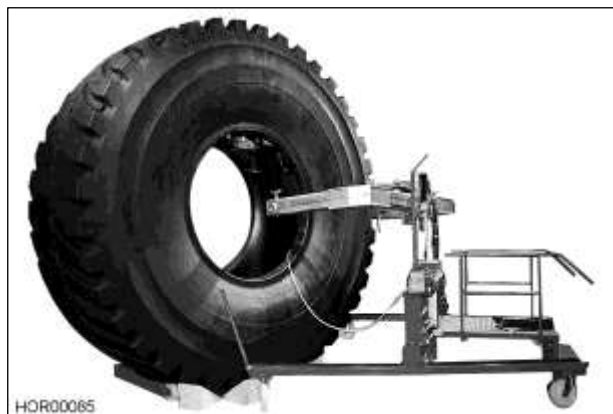

Bild 18 Positioning the left frame section
- Move the chassis and rotate the upper part of the machine in such a manner as to guide the left frame section into the tyre (Bild 18).
- Move the heating plate holder with the inner heating plate as far as possible towards the inside of the tyre and lock into place using safety bolts (Bild 18).